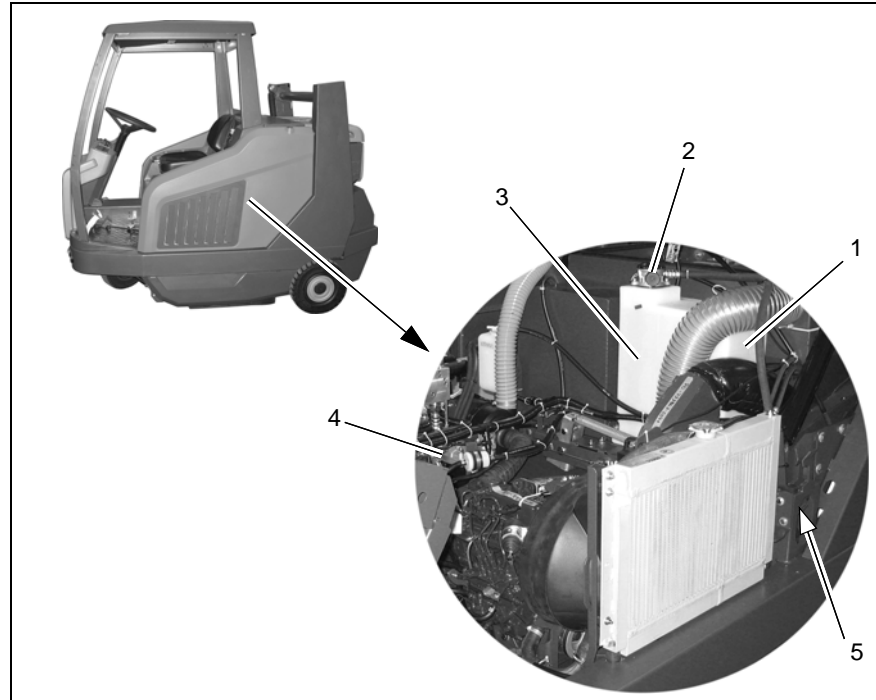

Fig.27
2. Check the oil level on the fill level indicator (Fig. 27/1) of the hydraulic oil tank (Fig. 27/3).
3. Remove the cap (Fig. 27/2).
2. Place a suitable collecting vessel under the draining hose (Fig. 27/5) of the hydraulic oil tank.
2. Unscrew the hydraulic oil filter (Fig. 27/4).